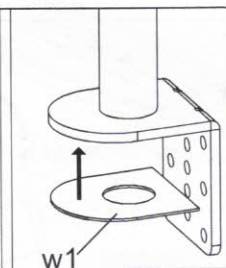

Figure 2
2. Attach Soft Pad(w1) to the $\propto$ Clamp Brace(c), see Figure 2.